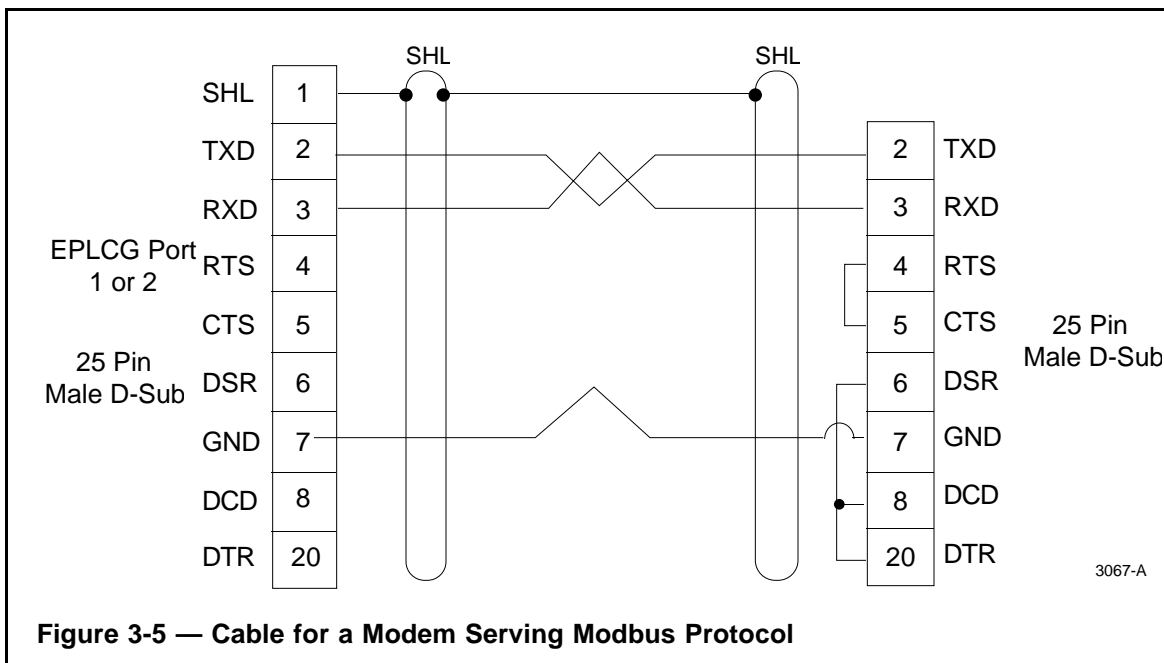

Figure 3-5 — Cable for a Modem Serving Modbus Protocol
- Carrier Detect (CD) or Data Carrier Detect (DCD)
For connection to a Modicon J478 modem or other short-haul modem serving a Modbus port as illustrated in Figure 2-3 (C) or 2-5 (C), install a connector on the free-end of cable 51304514-100 using Figure 3-5 as a guide. Use a standard 25-pin male, D-Sub connector.